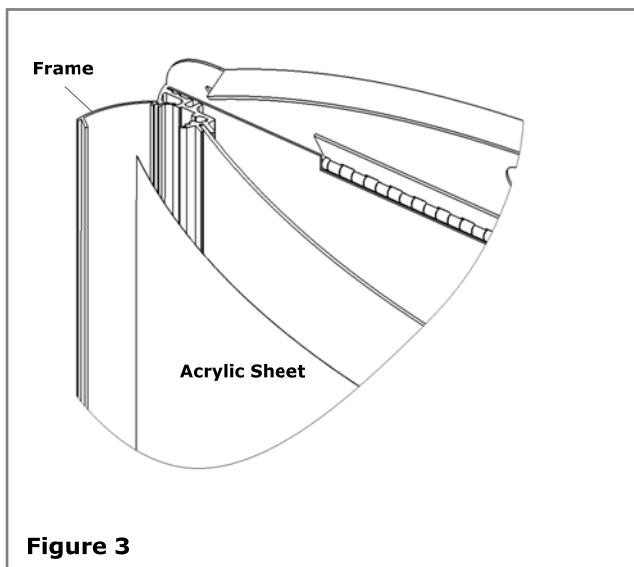

Figure 3
2. Flip open the frame pieces on the left and right pillars and remove the face sheet, if ordered. **See Figure 3.**